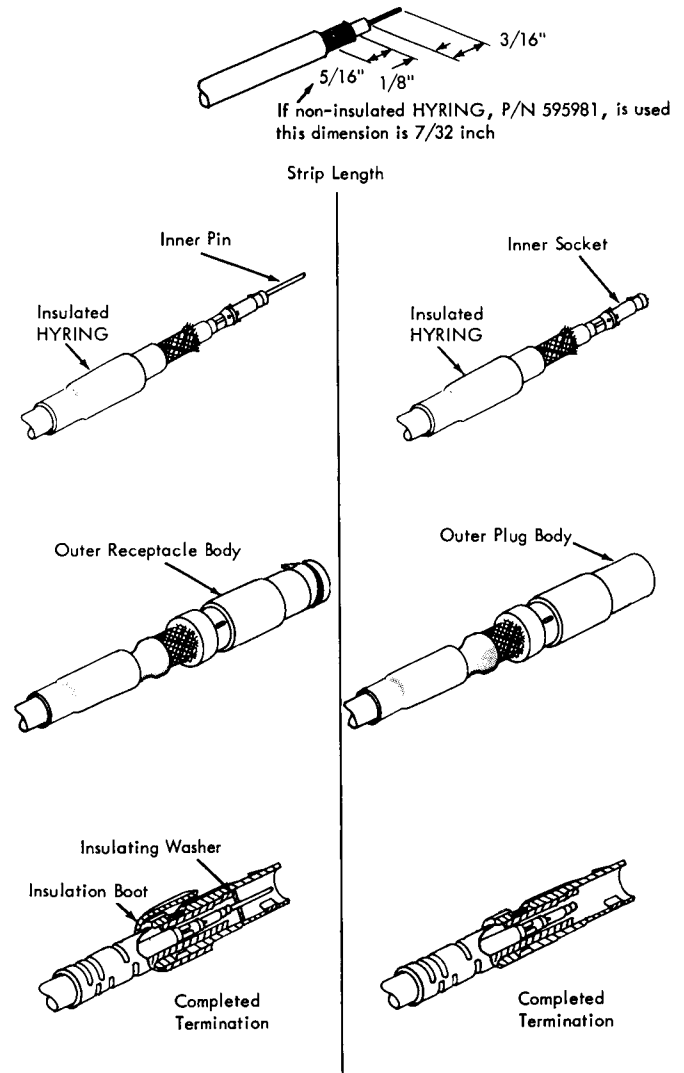

Figure 56. Coaxial Cable Connector Assembly
To attach coaxial cable to the outer plug body, P/N 595986, refer to Figure 56 and proceed:
1. Strip the cable following the dimensions shown in Figure 56.
To attach coaxial cable to the outer receptacle body, P/N 595980, refer to Figure 56 and proceed:
1. Strip the cable, following the dimensions shown in Figure 56.